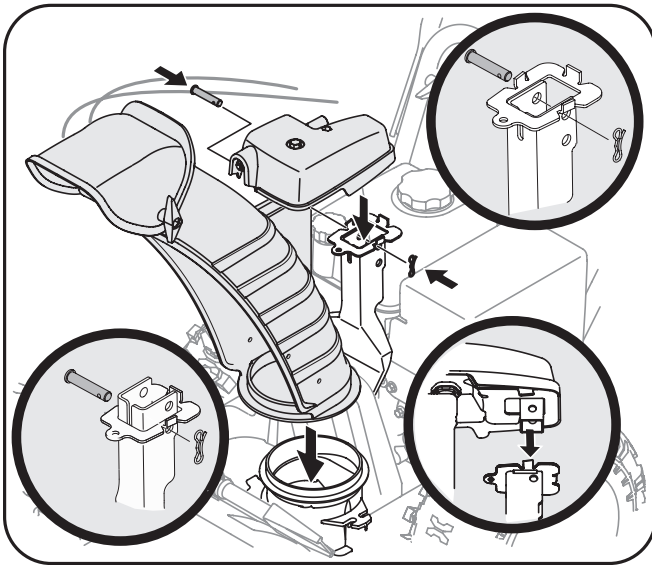

Figure 3-4
- Place chute assembly onto chute base and secure chute control assembly to chute support bracket with clevis pin and cotter pin removed earlier. See Figure 3-4.